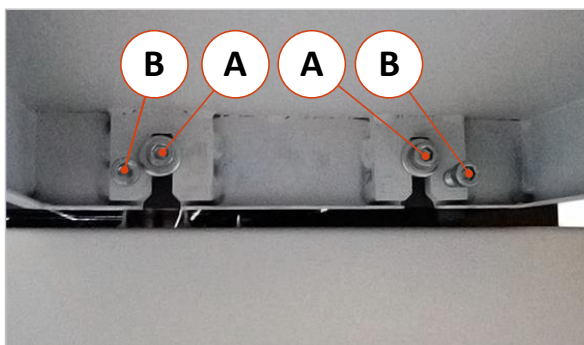

Figure 45: Mounting the table extension
- Loosen the two screws (A) located in the machine body with an SW 8 Allen key and unscrew them so far that you can hook the two table extension holders (D) between the washers and the machine body (see ⇒ Figure 45).
- Align the table edge of the extension table flush with the machine table edge using the screws (A).
- Align the inclination to the machine table edge by means of screws (B).
- The height of the table extension edge can be adapted to the machine table via the two adjusting screws (C) on the top using an SW 3 Allen key.
- After the adjustment is complete, tighten the screws (A) well.